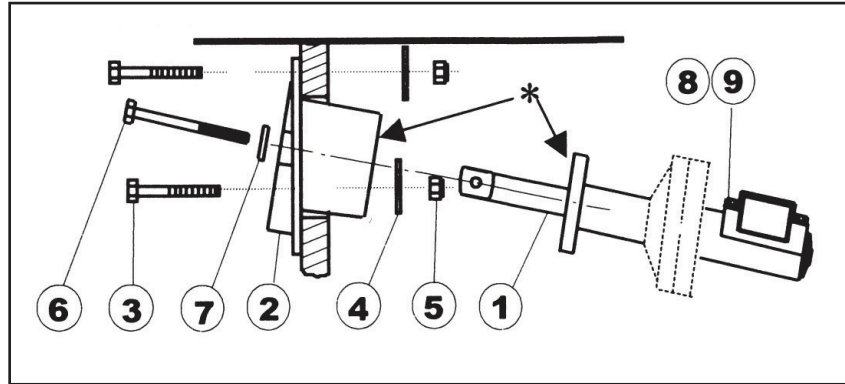

Figure 3.
Secure the helm mounting plate (item 2) in position using three each of the 2-1/8" long hex bolts (item 3), large OD flat washers (item 4), and locknuts (item 5). Be sure the washers are on the inside of the dash as shown (see Figure 3). Tighten securely.
Insert the helm shaft through the hole in the mounting bracket, orienting the helm so the rack and cable assembly are on top (see Figure 3). Secure in place using two 2-1/2" long locking patch hex bolts (item 6) and flat washers (item 7). Tighten bolts (75-125 inch-pounds).
*When tightening, draw mating surfaces * flush first before applying final torque. See Figure 3.*